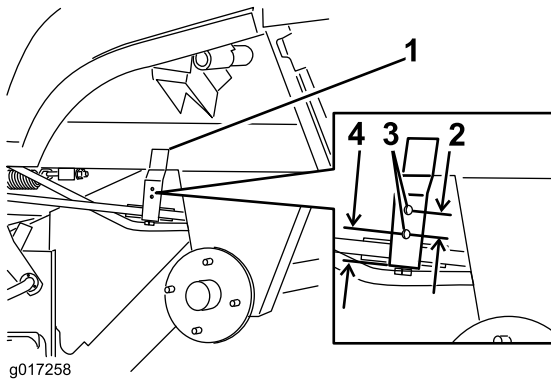

Figure 4
1. On the left side of the machine, drill 2 holes as specified in Figure 4.
- A. Measure the location for the holes in the pulley bracket as specified in Figure 4.